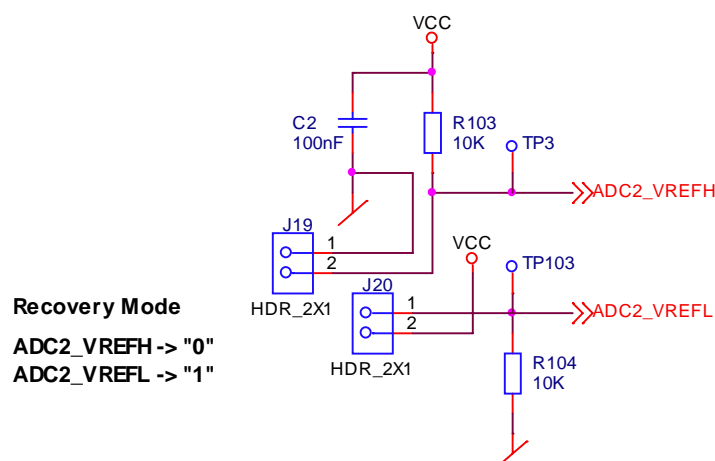

Figure 3-23. Typical FLASH Erase Circuit
- Figure 3-23 shows a typical hardware configuration with jumpers to erase FLASH.